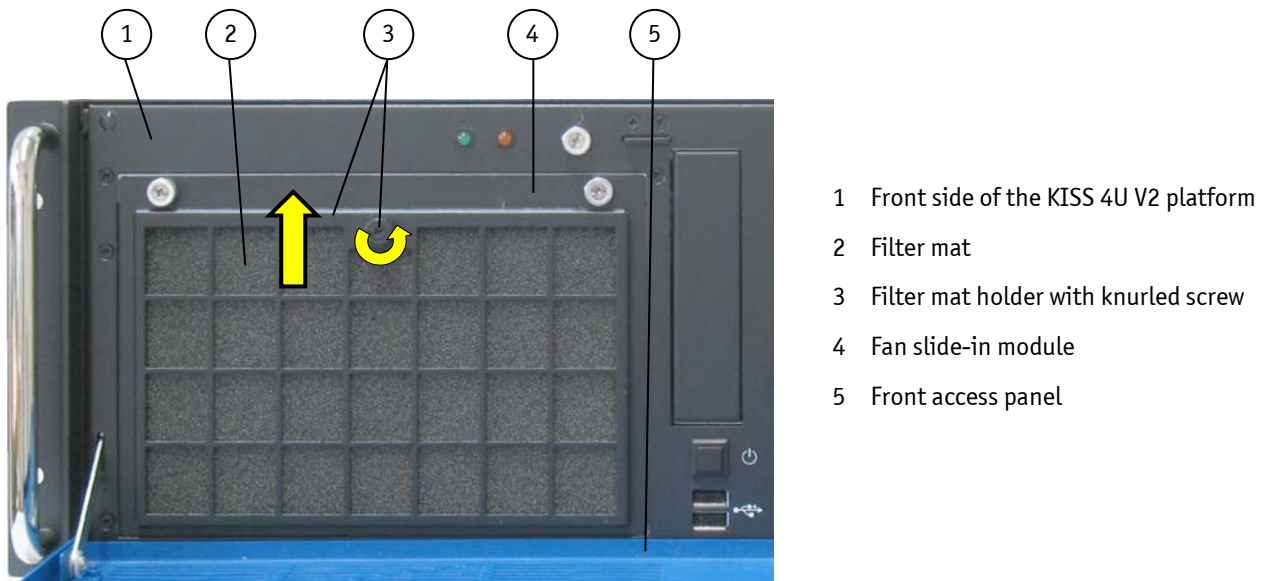
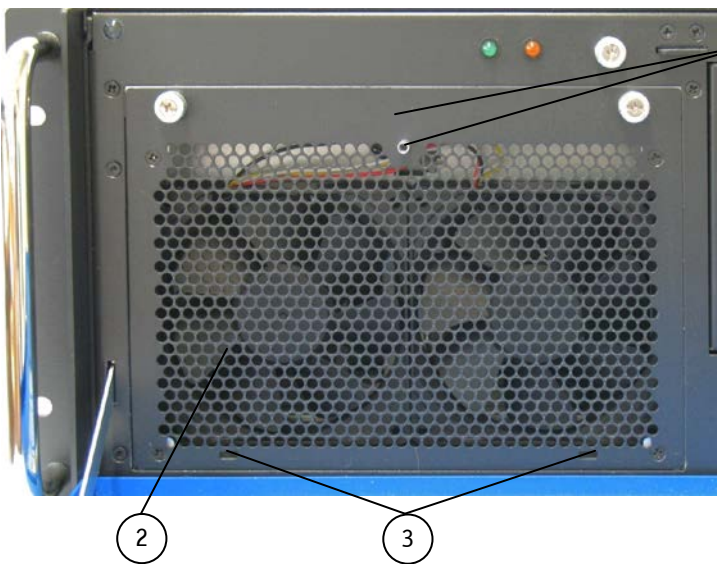

Fig. 37: Detail: Filter mat holder on the front side of the KISS 4U V2 platform
Fig. 38: Detail: without filter mat at the front side
The filter mat is inserted in the filter mat holder at the front side of the fan slide-in module (Fig. 37, pos. 4). The soiling of the filter mat is caused by the pollution of the operating environment. A heavily soiled filter mat can cause excessive heating of the device. For this reason we recommend to clean the filter mat as often as necessary. The filter mat can be changed during operation of the system.
1. Open the front access panel (Fig. 37, pos. 5).
2. Loosen the knurled screw that secures the filter mat holder to the fan slide-in module (Fig. 37, pos. 4 and Fig. 39, pos. 5).
3. Pull the filter mat holder out of the positioning holes (Fig. 38, pos. 3) into the marked direction (see Fig. 37) and lift it out.
4. Remove the soiled filter mat (Fig. 37, pos. 2 and Fig. 41).
7. Reattach the filter mat holder to the front side of the fan slide-in module by inserting the positioning plates (Fig. 39, pos. 6) into the positioning holes (Fig. 38, pos. 3).
8. Fix the filter mat holder by tightening the knurled screw (Fig. 39, pos. 5) to the bolt with tapped hole (Fig. 38, pos. 1) at the fan slide-in module.
Legend for Fig. 38 and Fig. 39: